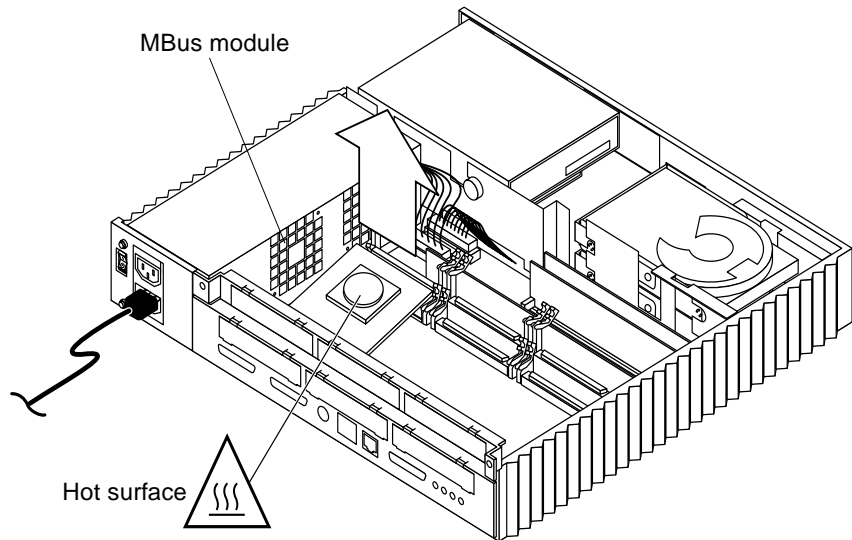

FIGURE 11-3 Removing a Single-Wide MBus Module
- 6. Holding each side of the card extractor, pull the MBus module up until the connector is out of the slot (FIGURE 11-3).**